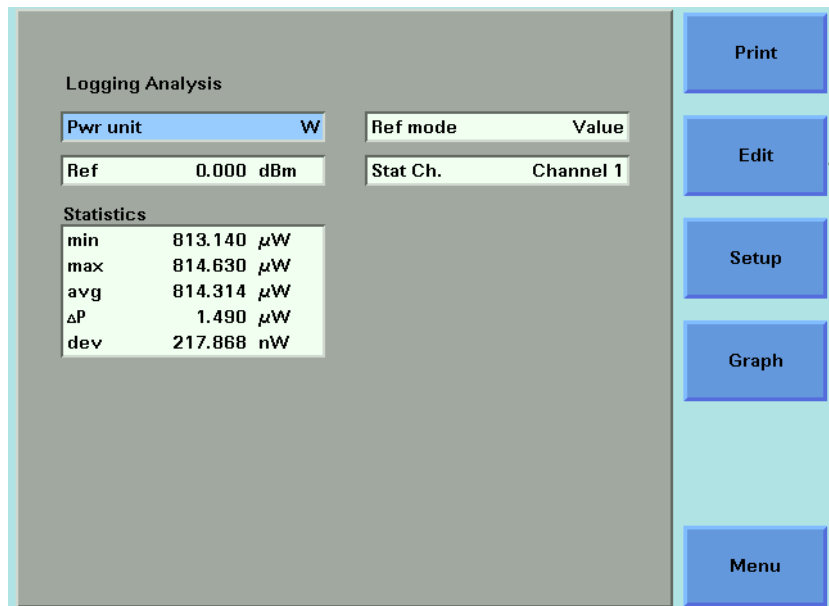

Figure 152 The Agilent 8164A/B Logging Analysis Screen
- 2 Press [Analysis]. The Logging Analysis screen appears as shown in Figure 152 for the Agilent 8164A/B and Figure 149 for the Agilent 8163B. \